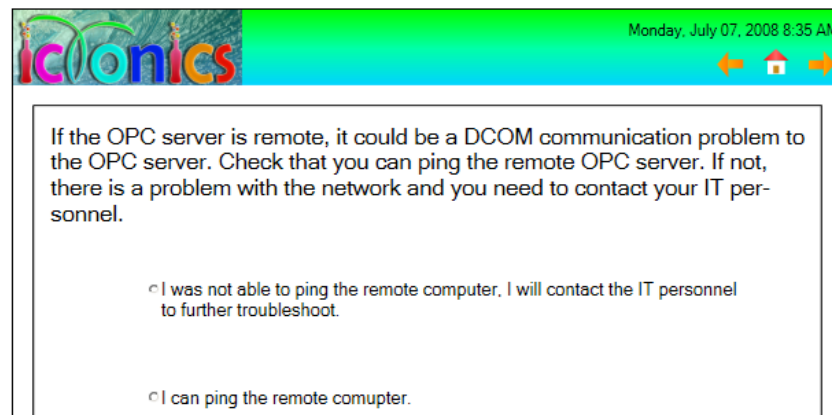

Figure L1.7 - Screen6
20. Repeat step 11, and name the group Screen6 and make it look like Figure L1.7.